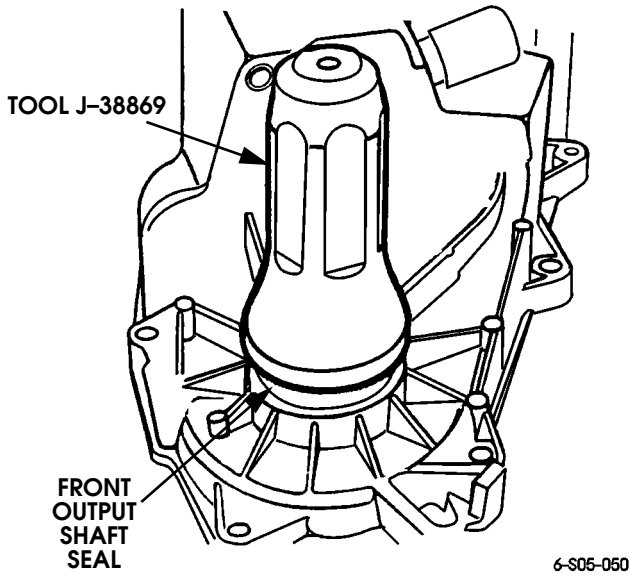

Figure 5-122: Front Output Shaft Seal Installation
5. Install new shaft seal with seal installer J-38869 (Figure 5-122). Then lubricate seal lip with Dexron III.